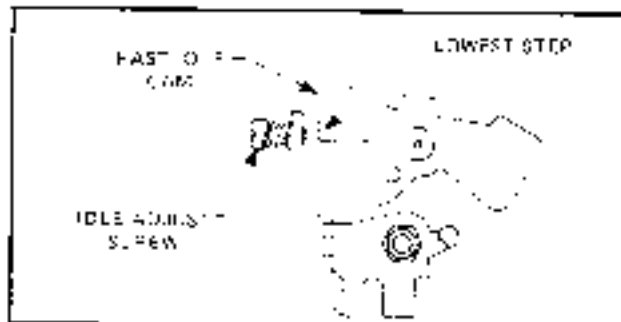

Figure 6C-120
5. With fast idle screw on lowest step of fast idle cam as shown in Fig 6C-120, engine speed should be to specification. Adjust fast idle screw if necessary